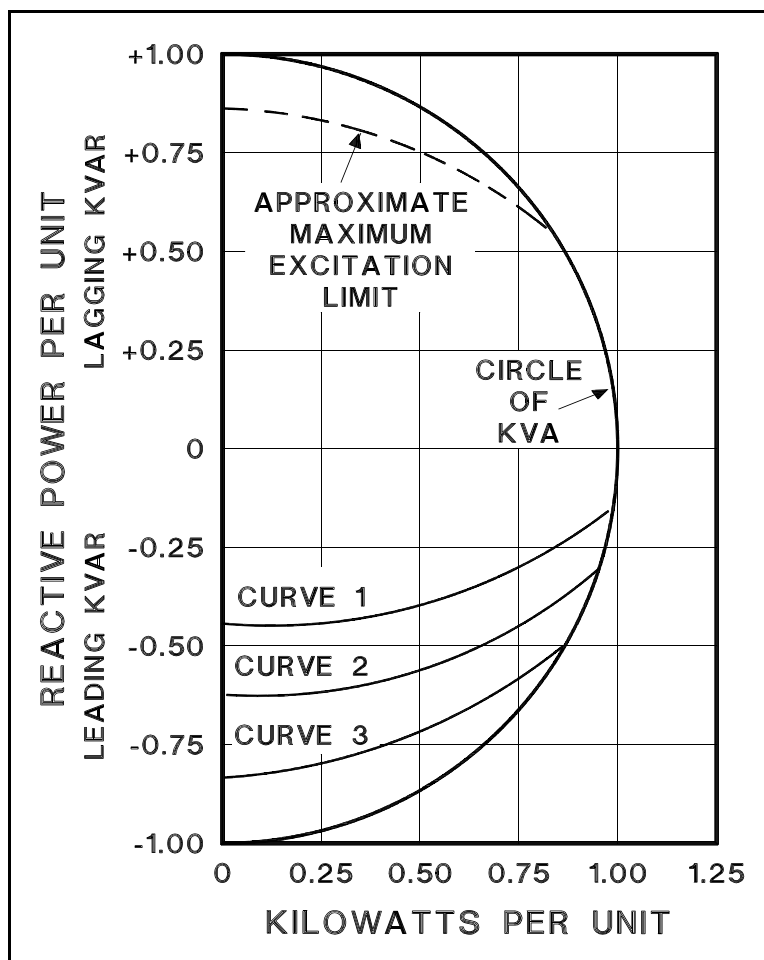

Figure 4-9. Leading kVAR Curves.
- f. Connect the curve selecting jumper from terminal TS3-4 to terminal TS3-1, TS3-2, or TS3-3 depending on the desired leading kVAR curve (refer to Figure 4-9).